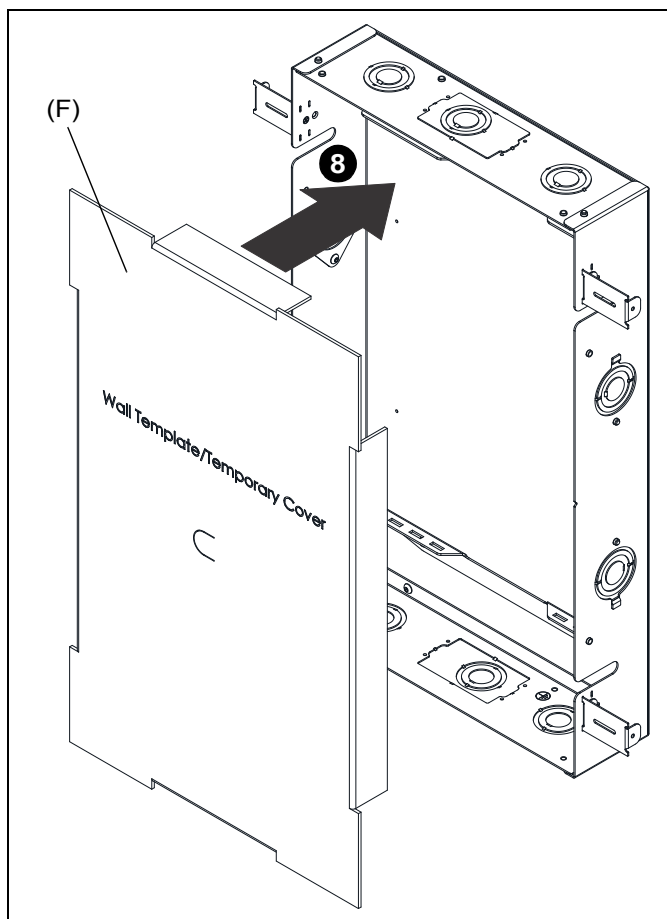

Figure 7
8. (Optional) Install Wall template/Temporary Covers (F) into box openings until ready to install FPIWMKIT2 to prevent debris from entering box during drywall installation. (See Figure 7)